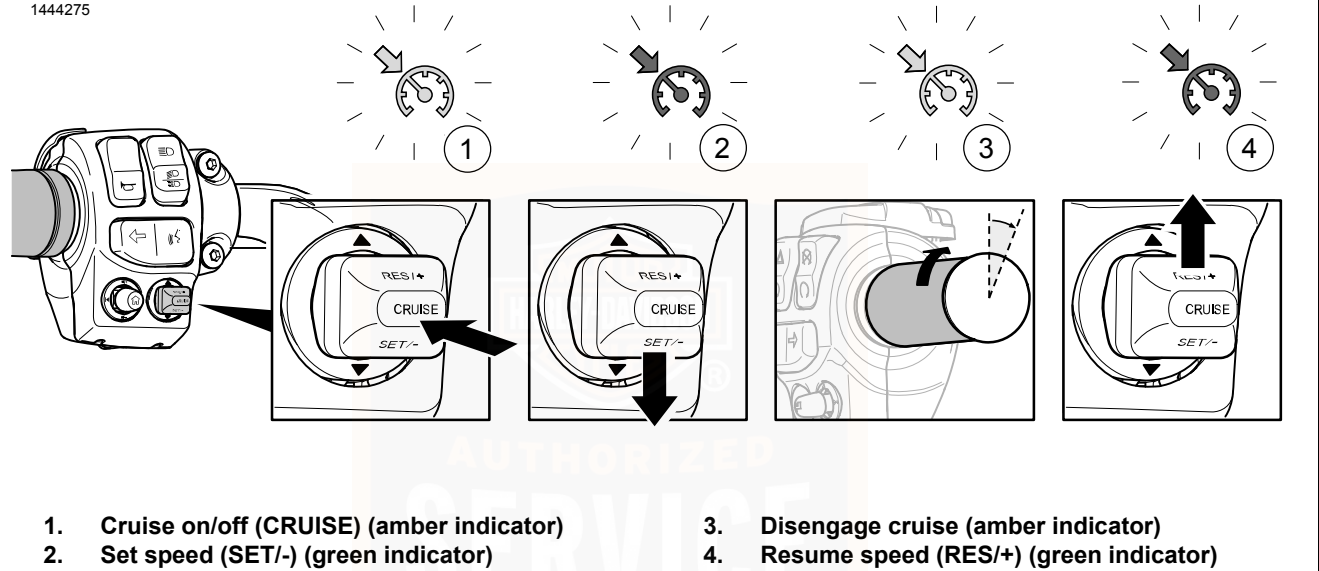

Figure 30. Cruise Control (typical)
See Figure 30. Press the CRUISE switch to turn on cruise (1). When on, the cruise icon in the speedometer face glows amber.
See Figure 30. When the motorcycle reaches your intended speed, press the SET/- switch down to set the cruise speed (2). The amber cruise icon changes to green.
See Figure 30. To drop out of cruise speed, roll the throttle closed through the roll-off switch (3).
See Figure 30. If cruise has been disengaged yet the cruise indicator is amber, pressing the RES/+ switch up resumes cruise (4). The icon glows green. The motorcycle automatically resumes cruise at the set speed.